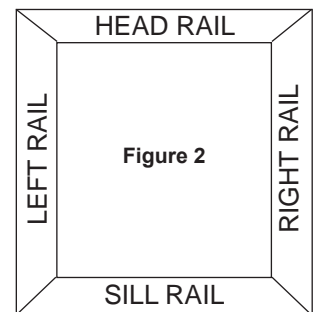

Figure 2
- Hardware to be installed on \_\_\_\_\_ rail (See Figure 2). Part No. \_\_\_\_\_